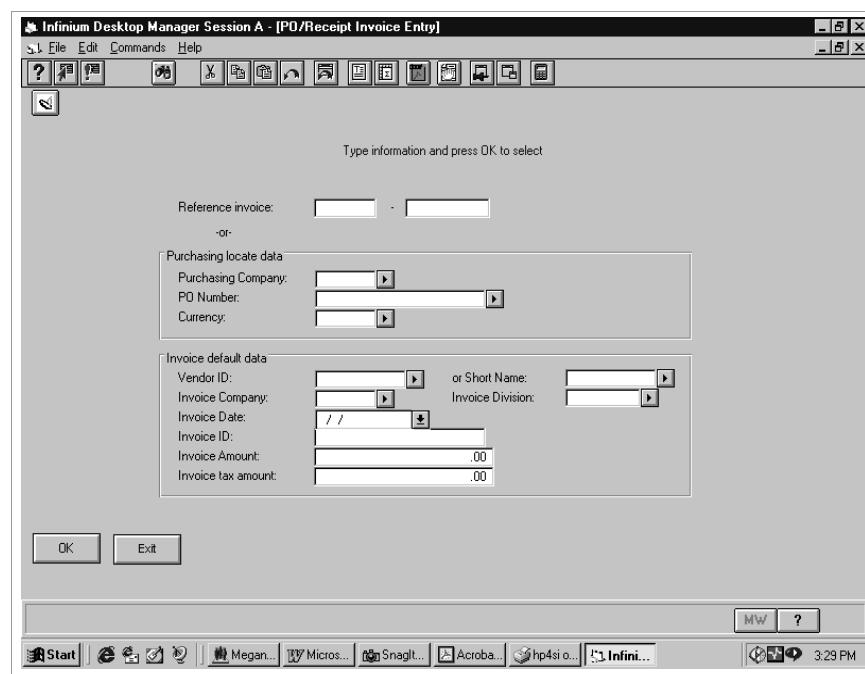

Figure 5-4: PO/Receipt Invoice Entry screen
- 5 Press Enter. The system displays the screen shown in Figure 5-4.
The system displays this selection list beginning with the purchase order number you entered on the PO-Receipt Invoice Entry screen shown in Figure 5-4. If you typed a vendor number rather than a specific purchase order on the PO-Receipt Invoice Entry screen, the system displays all purchase orders and receipts for that vendor.